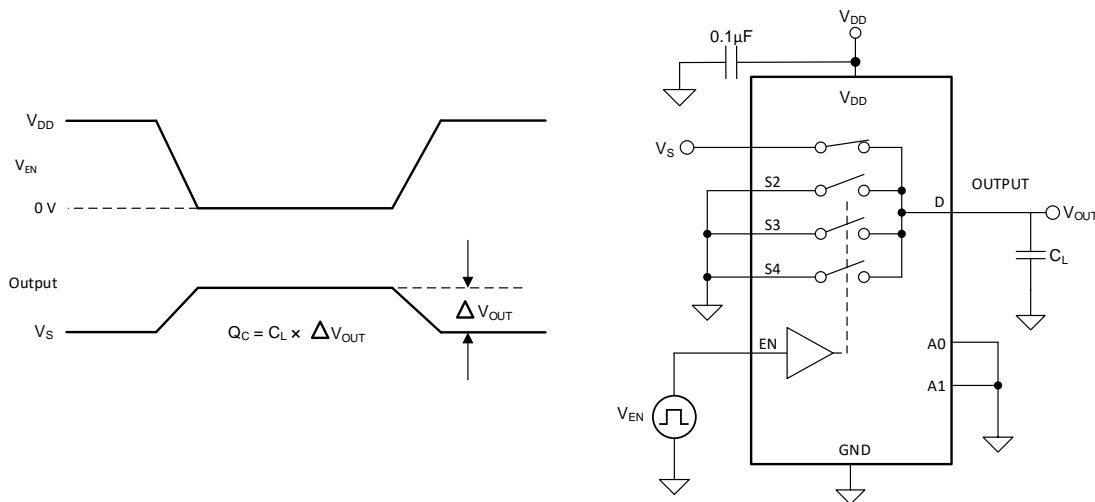

Figure 24. Charge-Injection Measurement Setup
The TMUX1104 has a transmission-gate topology. Any mismatch in capacitance between the NMOS and PMOS transistors results in a charge injected into the drain or source during the falling or rising edge of the gate signal. The amount of charge injected into the source or drain of the device is known as charge injection, and is denoted by the symbol  $Q_C$ . Figure 24 shows the setup used to measure charge injection from source ( $S_x$ ) to drain (D).